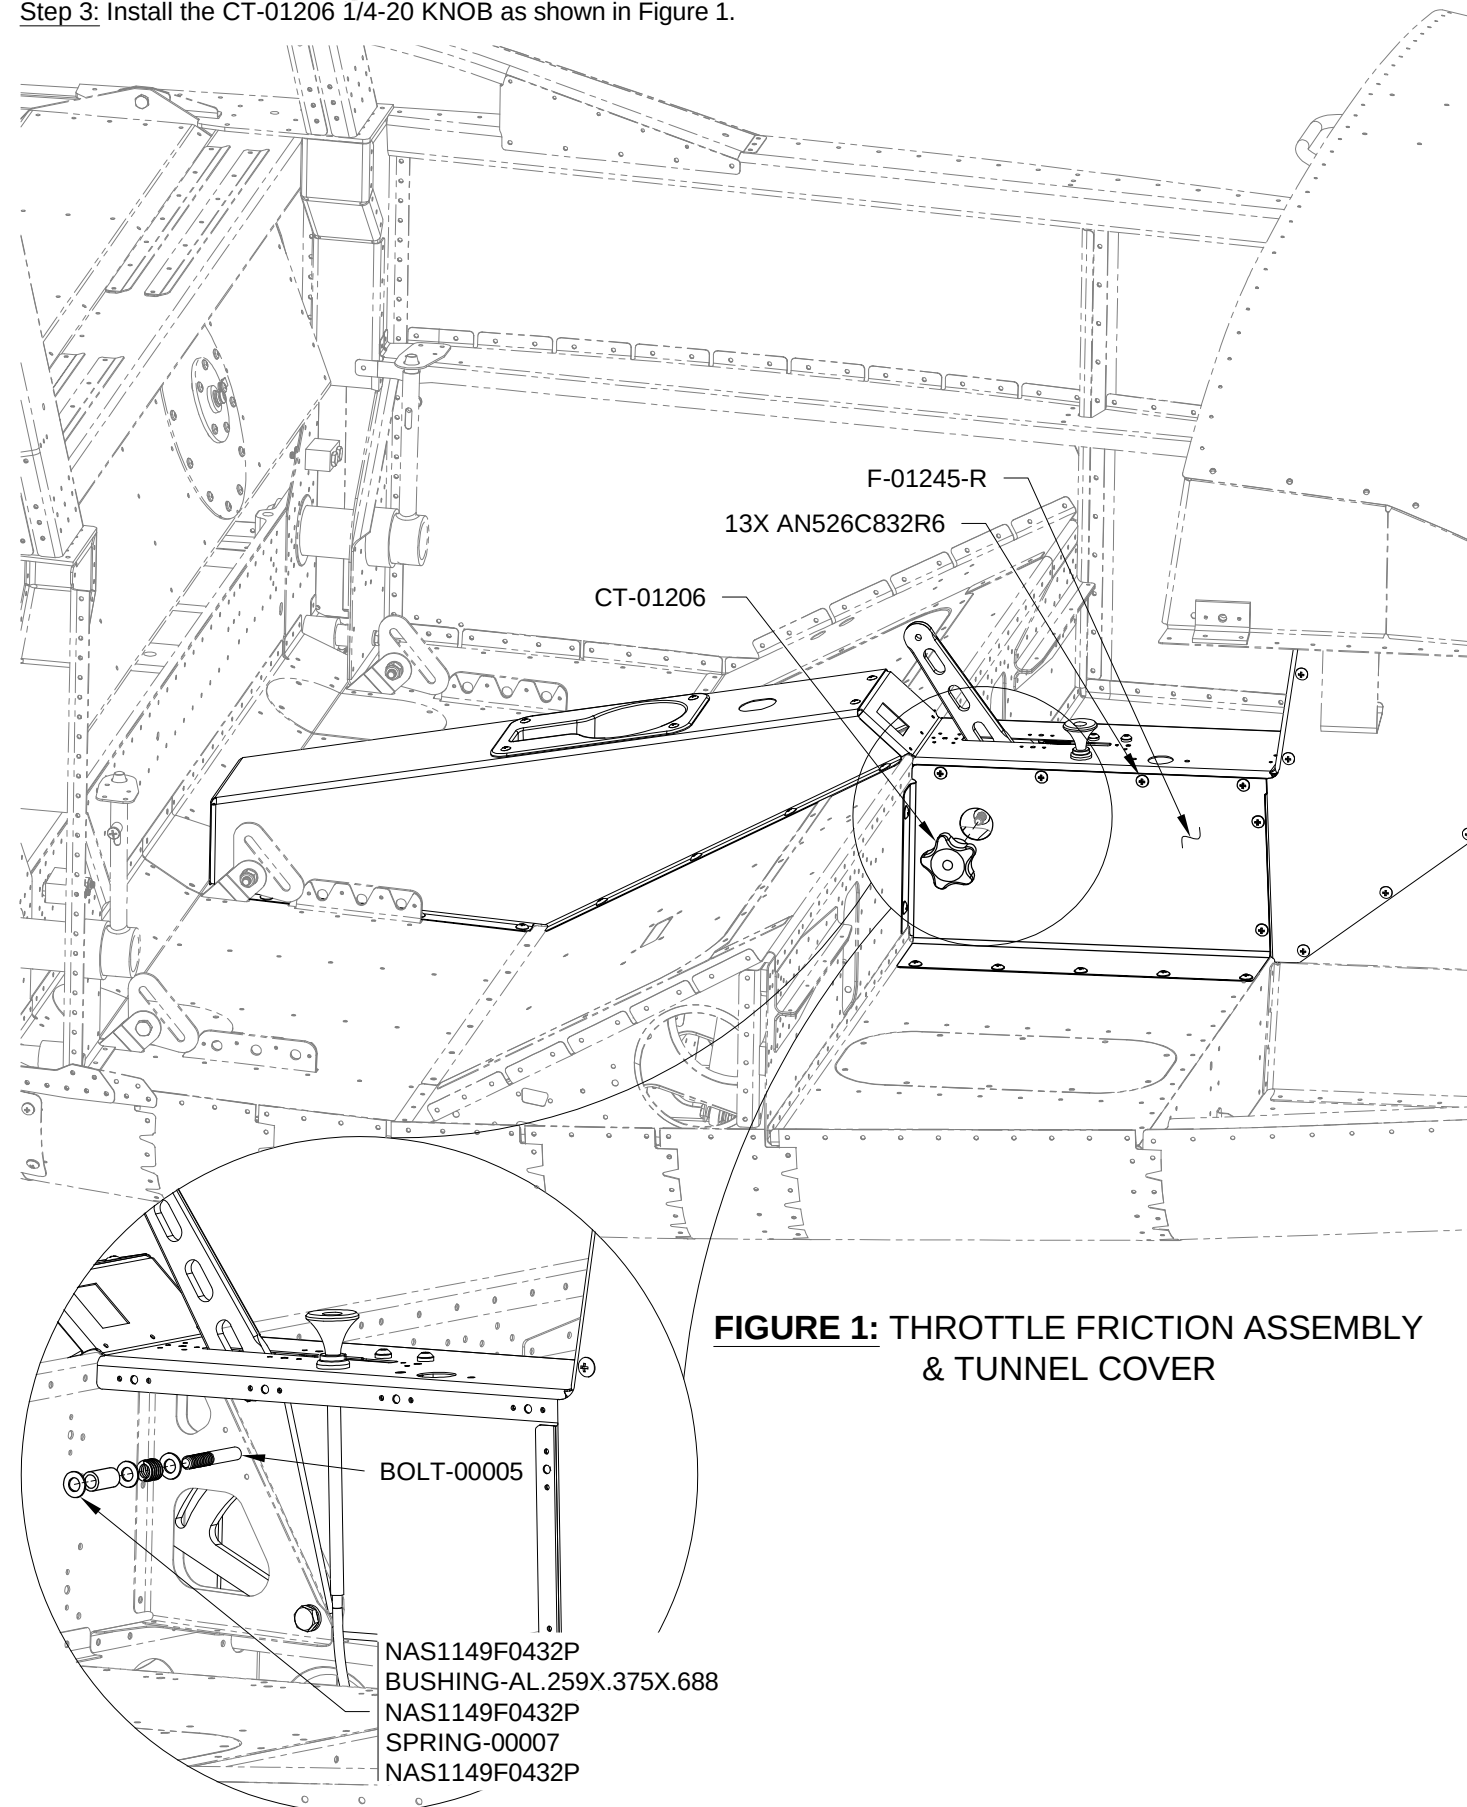

FIGURE 1: THROTTLE FRICTION ASSEMBLY & TUNNEL COVER
Step 1: Install the Throttle Friction Assembly hardware onto the BOLT-00005 as shown in the detail view in Figure 1.
Step 2: Install the F-01245-R using the hardware called out in Figure 1.
Step 3: Install the CT-01206 1/4-20 KNOB as shown in Figure 1.